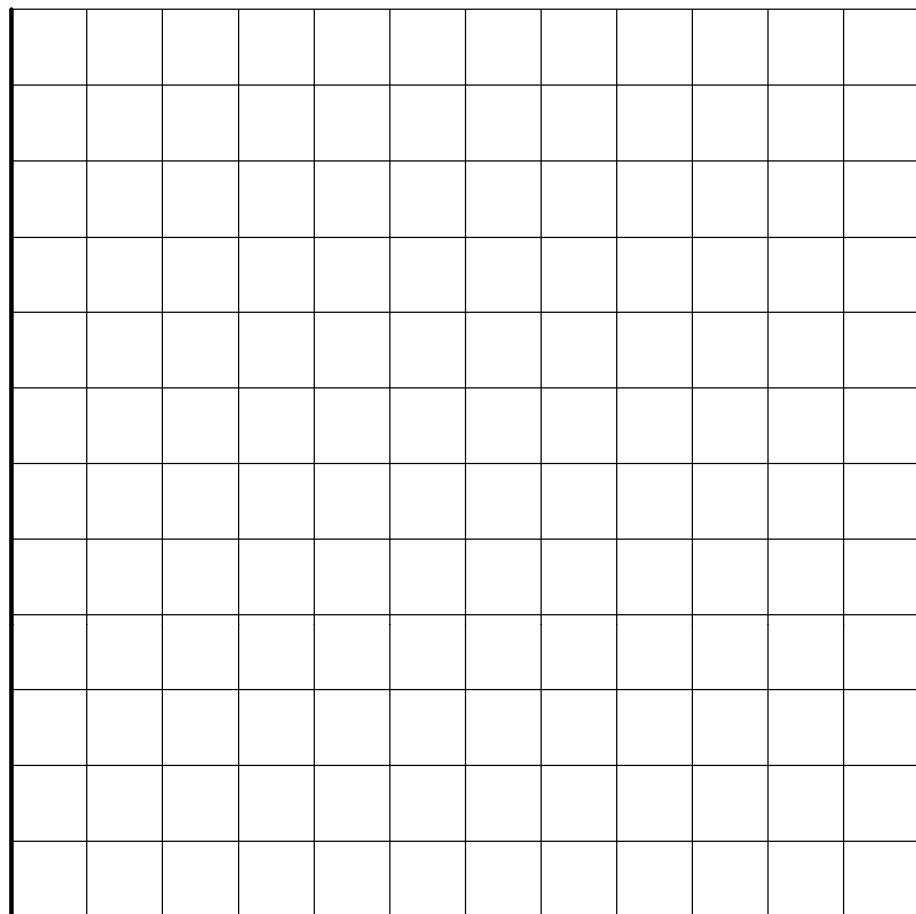

Fig. 2.2.1.2: Graph  $I = f(U)$
- Plot both series of measured values in the chart below (Fig. 2.2.1.2) and join the points plotted to produce a characteristic for each resistor.
- Have the resistors given in table 2.2.2 ready to hand and first insert a resistor with a value of  $R = 33 \Omega$  in the measurement circuit (Fig. 2.2.1).